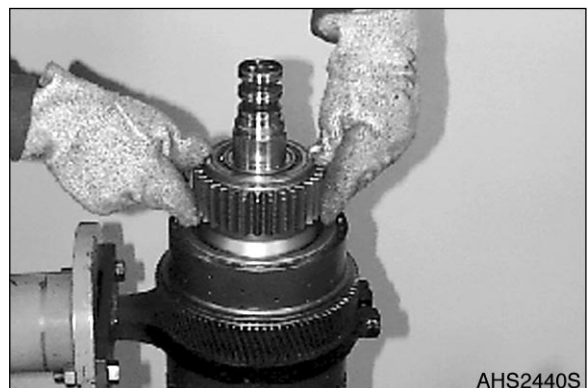

Figure 284
2. Pre-assemble and install Spur gear K1 (Figure 277 - Figure 284).